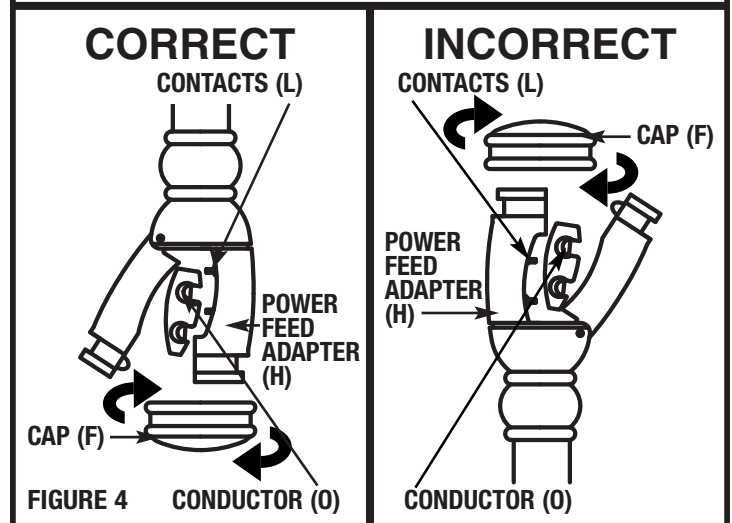

FIGURE 4
### INSTALL RAIL ONTO POWER FEED AND SUPPORT (Fig. 4)
1. Unthread caps (F) from rail adapters (H).
2. Install rail into rail adapters (H) so conductors (M) face contacts (L) of power feed (see Fig 4). **\*Please make sure contacts (L) fit into rail conductors (M) properly.**
NOTE: If power feed or support adapters (H) are not able to close around rail, turn rail around so adapter fits properly (see fig. 4).
3. Close adapters (H) over rail. Tighten grounding screw on power feed adapter (H) into rail with phillips head screw driver. Thread caps (F) back onto adapter (H).